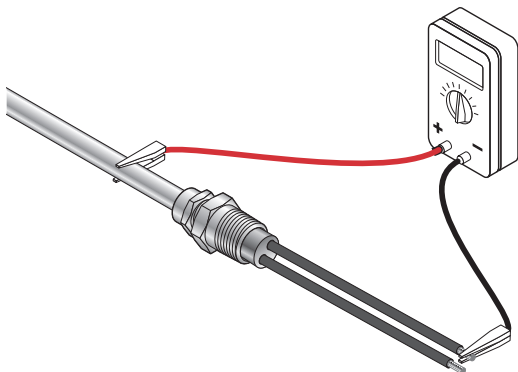

Figure 11: Measure the insulation resistance.
Check the insulation resistance (IR) of the cable sections at this point using a 1000 V DC Megohmmeter (Figure 11). Further details on IR testing can be found in Appendix B. The IR test checks for the presence of moisture in the magnesium oxide insulation. A value greater than 20 M Ω should be attained. If the IR is lower, remove the moisture from the cable by following the **drying out** procedure in Appendix D. Ensure IR is 20 M Ω minimum before proceeding.